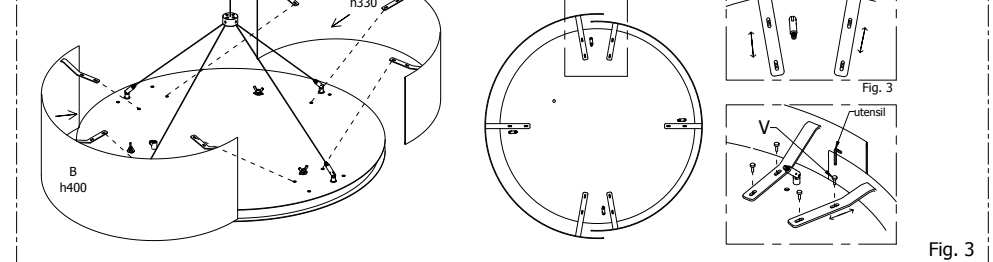

Fig. 3
- Fix the panels A and B with the appropriate screws (V) (Fig.3)